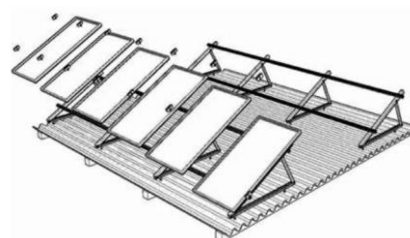

Fig 4.3.1E Complete array of panels
- V. Repeat until end of row, as shown in Fig 4.3.1E.